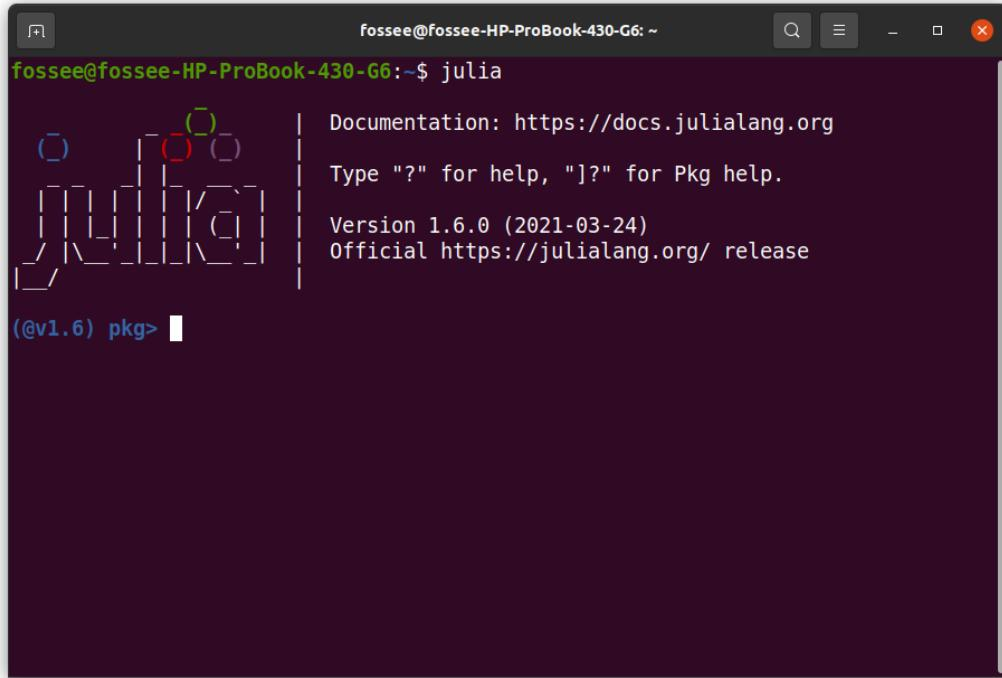

Figure 3.13: Linux terminal to enter Pkg REPL in Julia
2. From the Julia REPL, press] to enter the Pkg REPL. The moment you press], you enter Pkg REPL, as shown in Fig. 3.13.